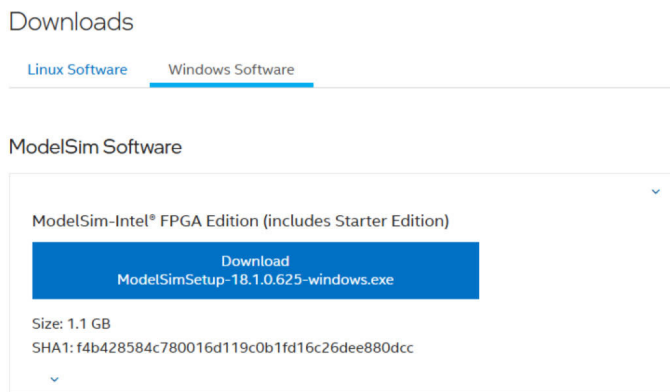

Fig. I.1. ModelSim Download Page
2. Visit [www.intel.com](http://www.intel.com) and download ModelSim-Intel® FPGA Standard Edition, Version 18.1, or other versions, depending on your device. (Figure I.1)